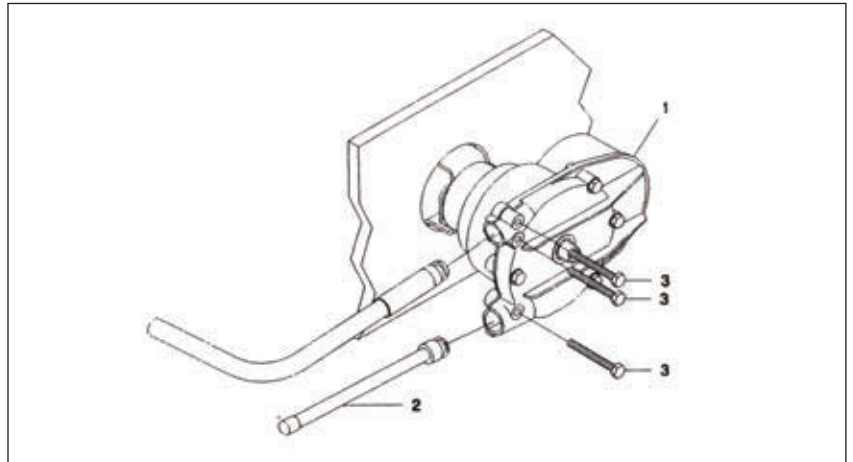

Figure 2.
STEP 2. Feed cable end into the **UPPER** Helm entry spigot until it contacts the internal gear, then turn the steering wheel to draw the cable fully into the helm, (see figure 2). Continue turning the steering wheel until the end fitting of the cable is fully inserted into the entry spigot.
STEP 3. Insert two bolts (item 3) into the helm and tighten fully, making sure that both bolts are in the retaining groove of the cable fitting. See Figure 2.
STEP 4. Feed the Spent Travel Tube (Item 2) over the exposed cable end and insert bolt (Item 3) into the helm, tighten fully. See Figure 2.